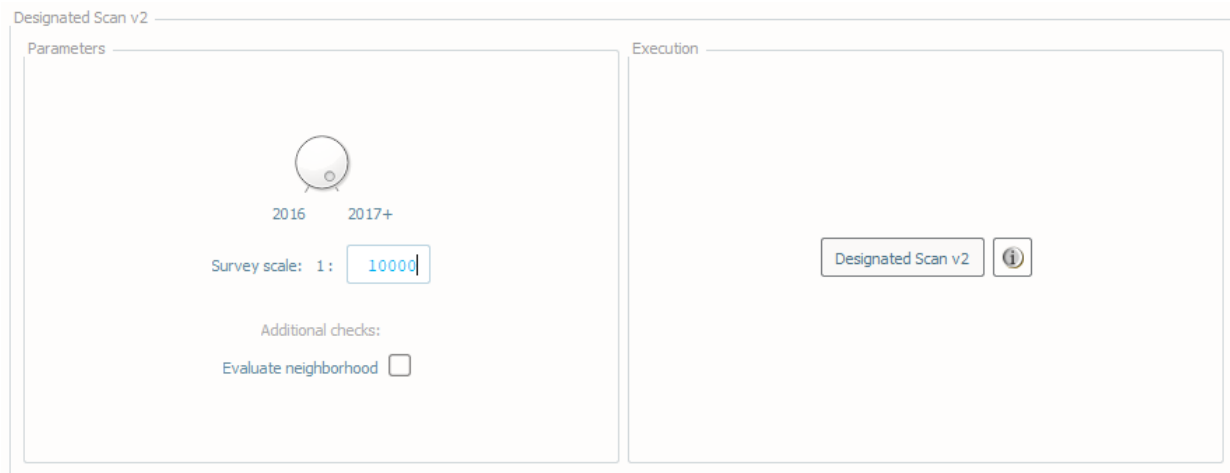

Fig. 2.25: The **Scan Designated** tab.
- Select the **Scan Designated** tab (Fig. 2.25) on the bottom of the QC Tools interface.